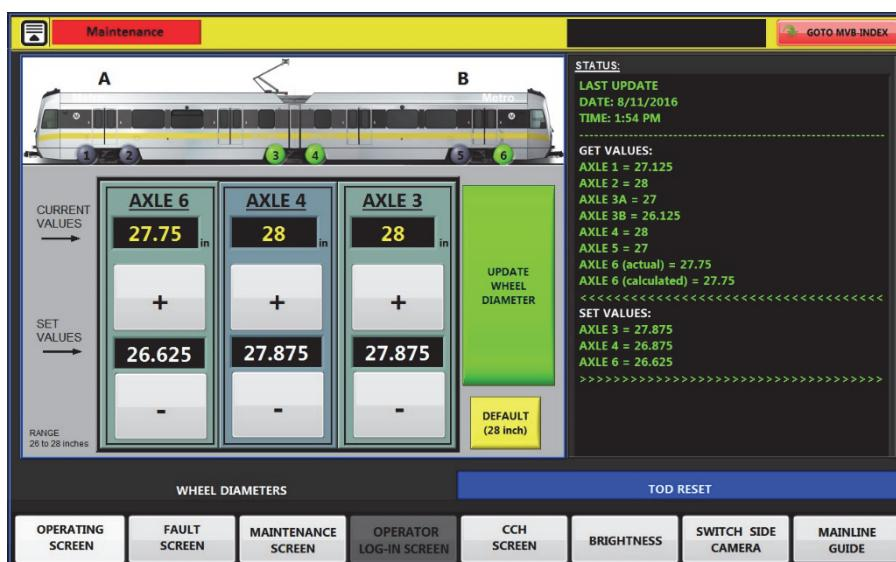
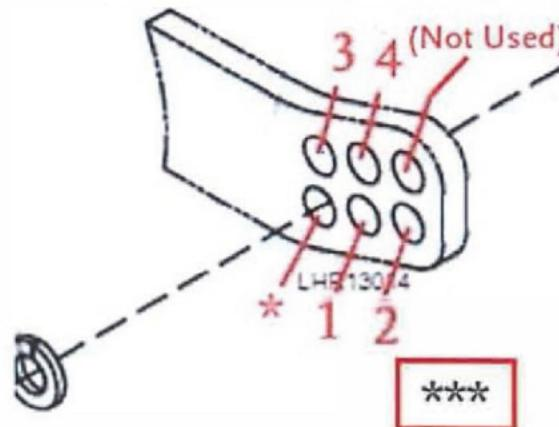

Figure 4-1: TOD Maintenance Screen
Figure 4-2: Air Spring Shimming / Adjustment
Car height can further be compensated for by the addition of adjustment plates (shims) under the air spring. A maximum of four (4) adjustment plates can be used under any air spring based on the wheel diameter. The wheel diameter is entered at the maintenance screen on the TOD. See Figure 4-1. The adjustment plates measure 0.196 in. (5mm) thick. When an adjustment plate is added under the air spring, the adjusting rod of the leveling valve must be moved up to the next hole and the special pin/special washer must be rotated to achieve the same vertical clearance as the original (new wheel) setting. See Figures 4-2 and 4-6.
6. Lift the air spring and insert shims based on the wheel diameter. See Figures 4-2 and 4-3.